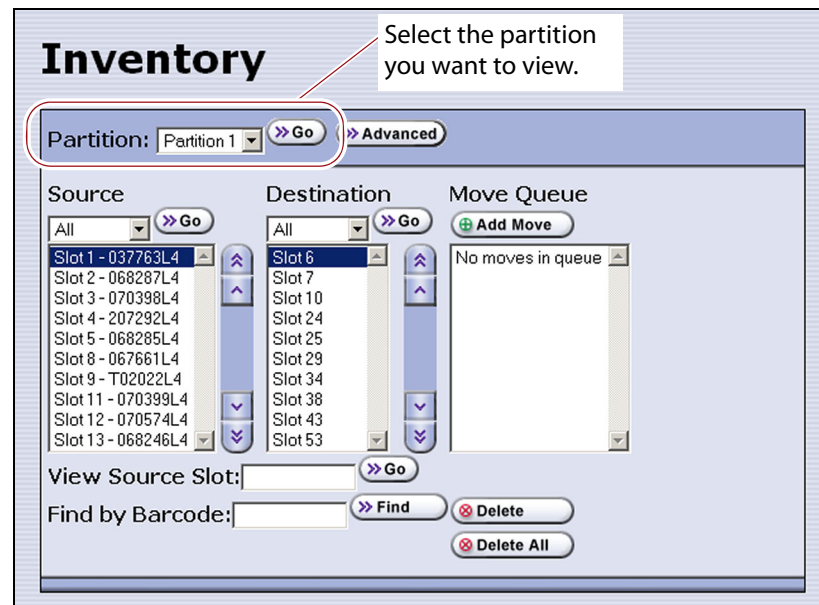

Figure 167 The Inventory screen.
4. If you want to download the inventory for a partition other than the one currently displayed, select the desired partition from the **Partition** drop-down list, then click **Go** (see Figure 167 on page 271).